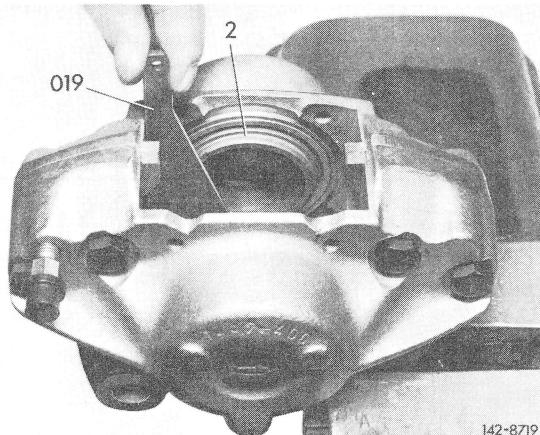

Fig. 11
10 Insert piston (2) into bores of caliper. Then check position of piston in caliper with piston gauge (019) (Fig. 11).